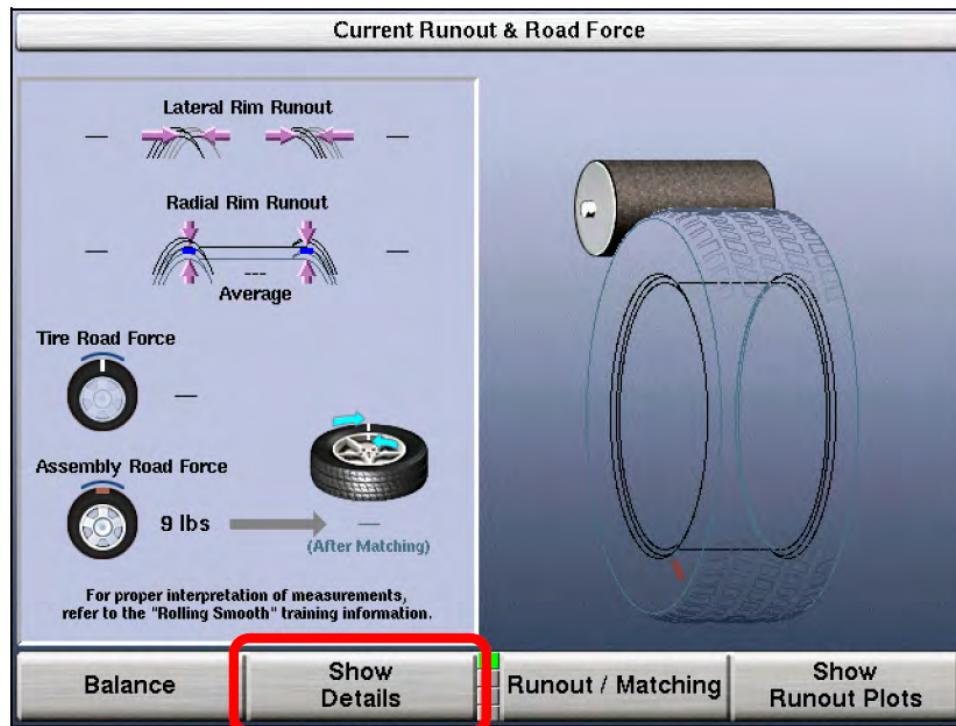

Figure 2
- From the "Current Runout & Road Force" screen below, select "Show Details" (see Figure 2).